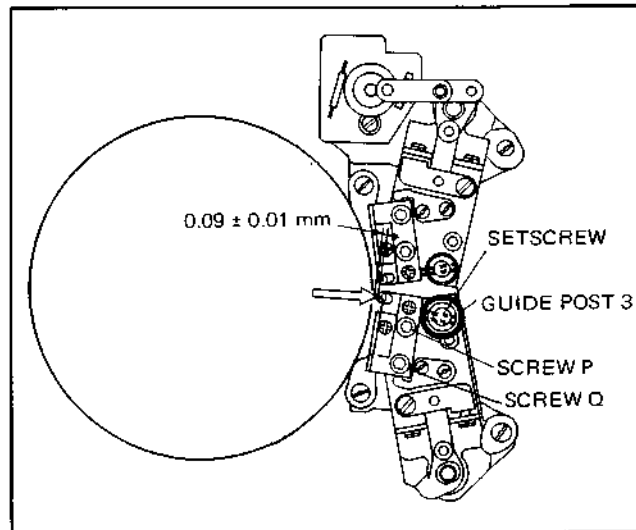

Fig. 3-88. Overlap B Adjustment
1. Loosen screw P shown in Fig. 3-88 1/2 to 1 turn.